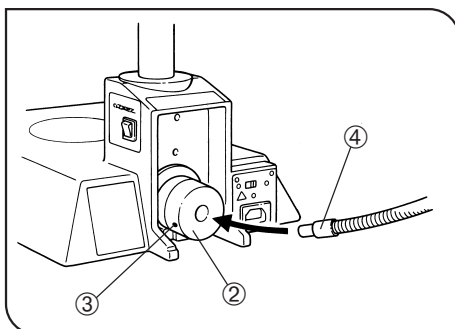

Fig. 24
3. Insert the output end ④ of the flexible light guide into the light guide adapter ② until it stops, and tighten the clamping screw ③ using the Allen screwdriver provided with the microscope body. (Fig. 24)